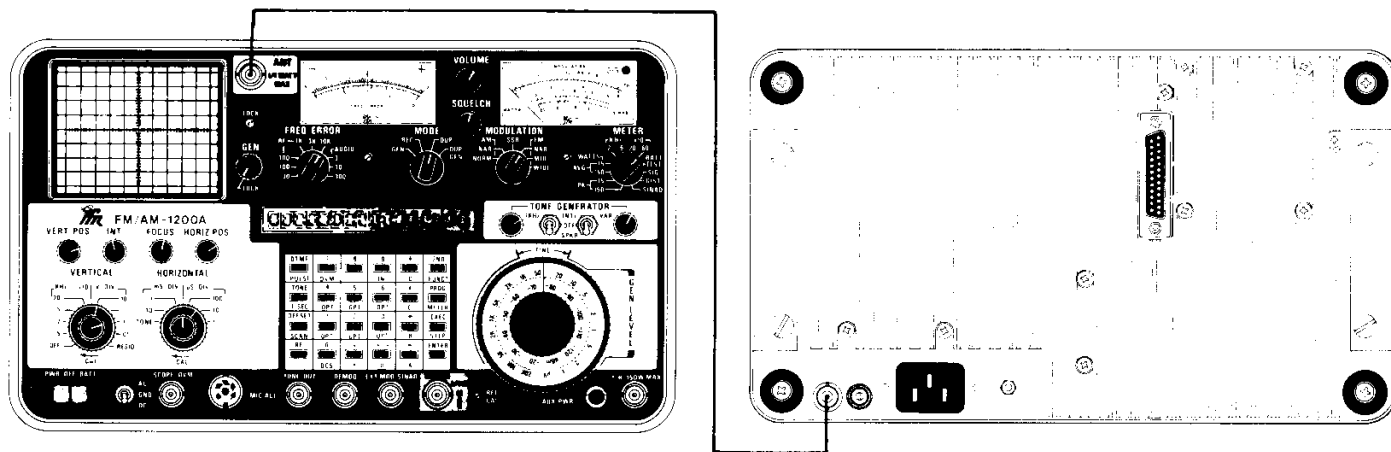

Figure C-1 Performance Test Set-Up Diagram
2.	Connect 2-foot length of 50 $\Omega$ coaxial cable between ANT Connector (34) and External Reference Connector (46) as shown in Figure C-1.
3.	Place PWR/OFF/BATT Switch (22) to either "PWR" or "BATT" position and observe the following indications: